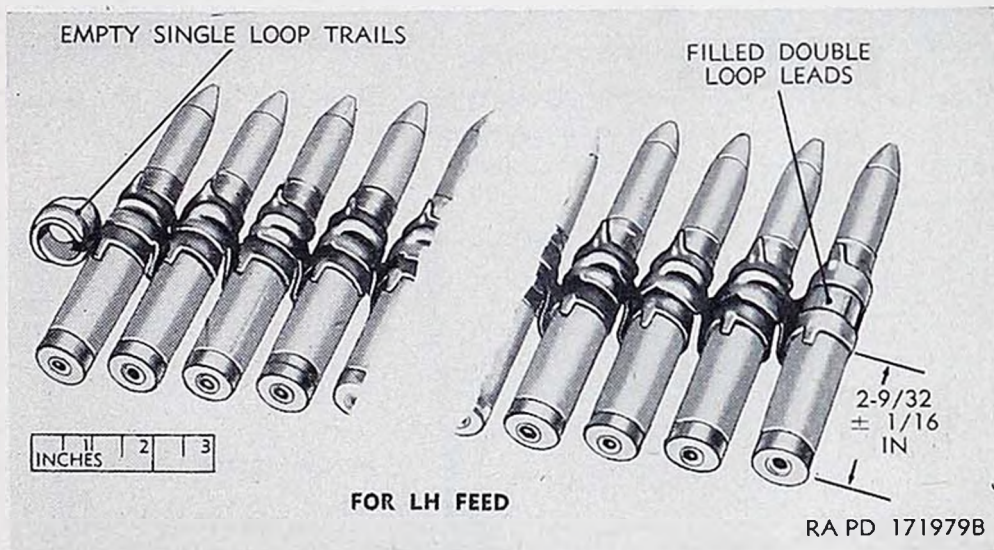

Figure 28. Loaded belt for double-loop light-hand feed.
d. For Double-Loop Left-Hand Feed. Proceed as in b above, but insert a filler piece in the single loop at the end of the belt, as shown in figure 28.